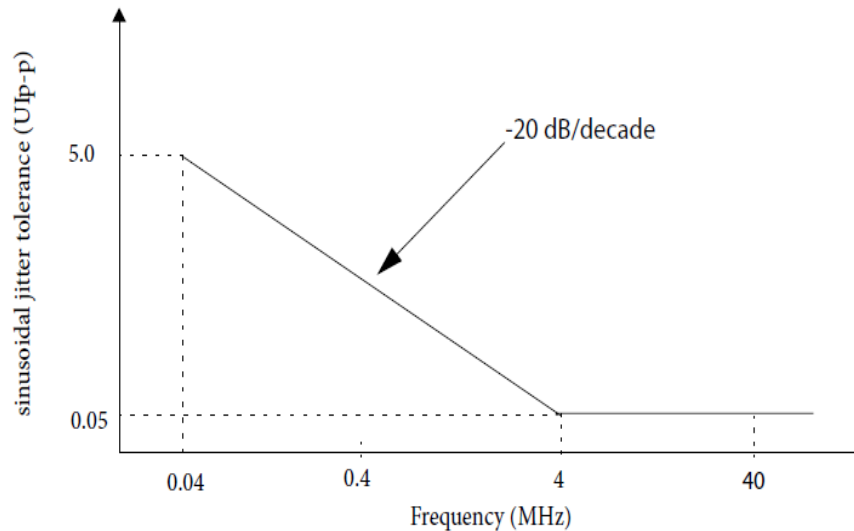

Figure 60. SFI+ SR and LR host receiver input datacom sinusoidal jitter tolerance
1. The 99% jitter is per SFF-8431 Rev4.1 and includes sinusoidal jitter, per Figure 60 . 2. In practice the test implementer may trade DDPWS with other pulse width shrinkage from the sinusoidal interferer per SFF-8431 Rev4.1. 3. The SFI total channel Link Budget when measured with Host Compliance board is 9.0 dB @5.5GHz. The channel loss including connector measured with Host Compliance board @ 5.5GHz is 6.5dB. The penalty for reflections and other impairments is 2.5dB. Manual tuning of TX Equalization and amplitude will be required for performance optimization. 4. The AC specifications do not include Refclk jitter.